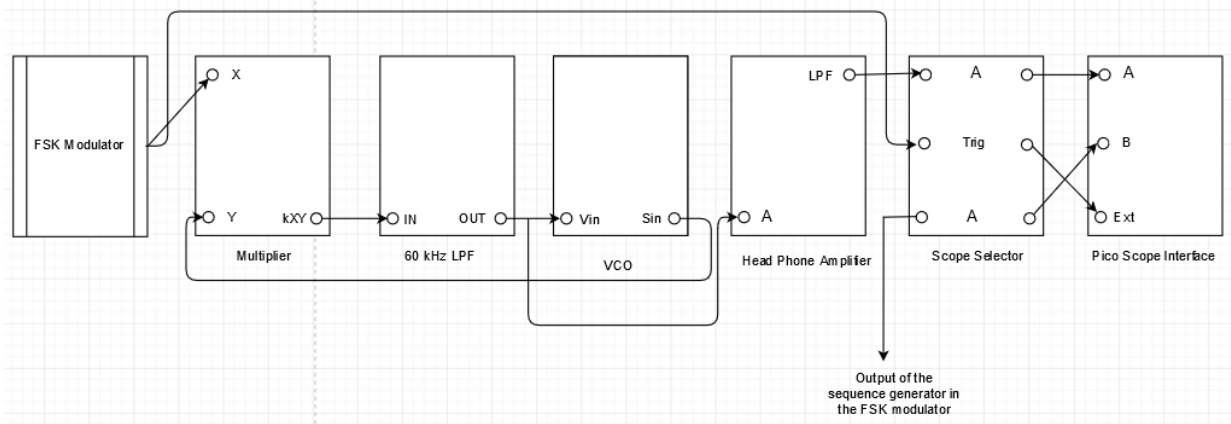

Figure A.6.4: FSK demodulator setup.
- i. Retain the modulator setup and make the demodulator setup as shown in the Figure A.6.4.